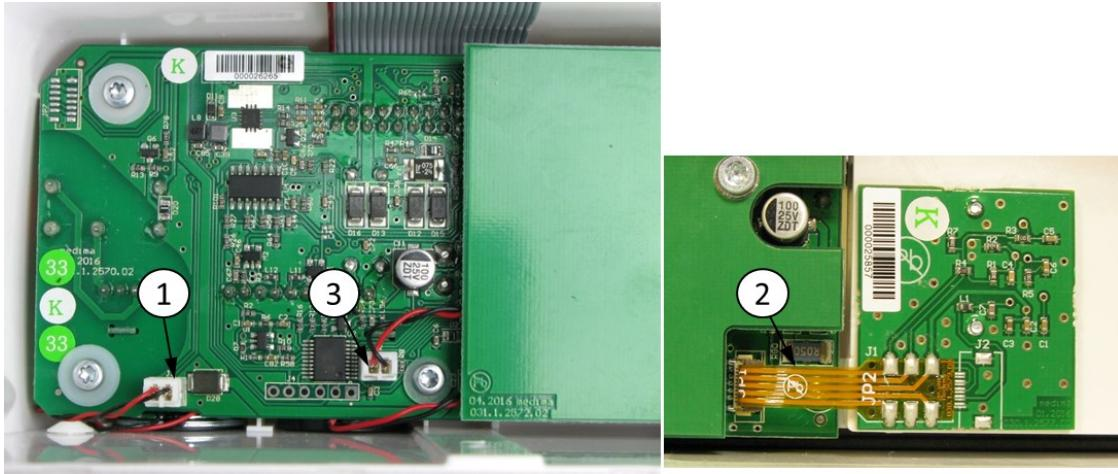

Fig. 57 Battery controller tape, Buzzer and Speaker disconnection/connection
2. Using the **TA-15** tweezers disconnect the **Battery controller tape (2)**. Using the **TB-5** flat-nosed pliers disconnect the **Buzzer (3)** and **Speaker (1)** shown in Fig. 57.
The Buzzer and Speaker cables place as shown in Fig. 57.
2. Using the **TA-15** tweezers disconnect the **Battery controller tape (2)** from the socket in the **Power supply boards set (Fig. 57)**.
3. Connect the **Battery controller tape (2)** to the socket in the **Power supply boards set (Fig. 57)**.